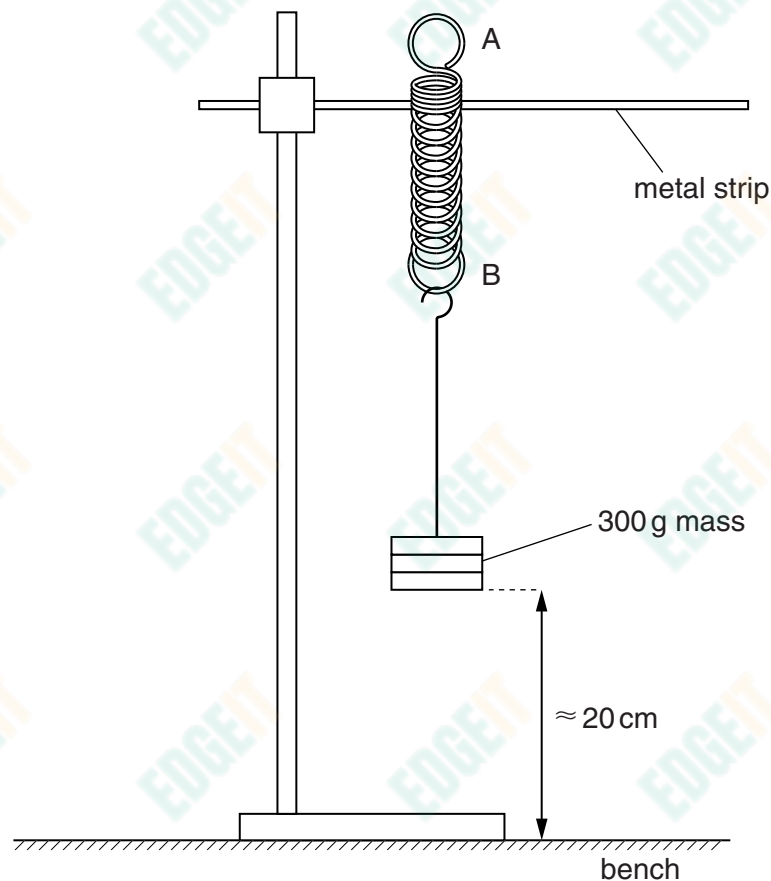

Fig. 2.3
- (c) (i) Clamp the metal strip so that it is horizontal with loop A of the spring at the top. Gently hang a mass of 300 g from loop B, as shown in Fig. 2.3. Ensure that the base of the mass hangs approximately 20 cm above the bench.